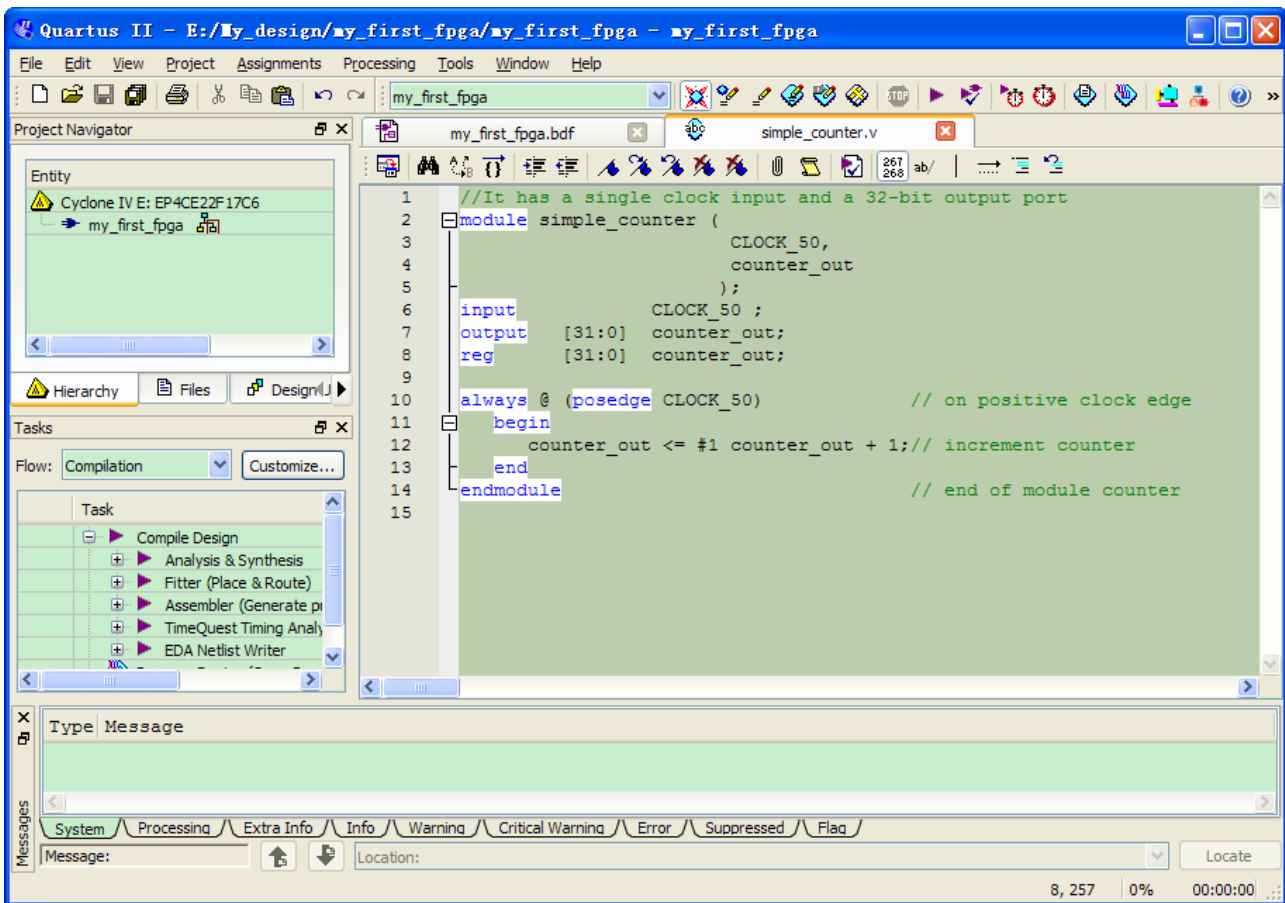

Figure 6-15 The Verilog File of simple_counter.v
8. Type the following Verilog HDL code into the blank `simple_counter.v` file (see Figure 6-15 The Verilog File of `simple_counter.v`).